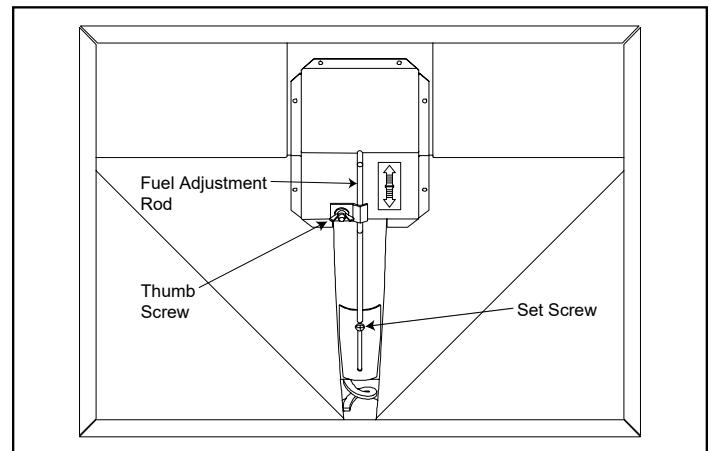

Figure 11.3
The feed adjustment control rod is factory set, and should be adequate for most fuels. The set screw is located at the bottom of the hopper and set loose at the factory so the fuel adjustment control rod will slide by only loosening the wing nut (**Figure 11.3**). Do not re-tighten bottom set screw.
1. Loosen the wing nut (**Figure 11.3**).